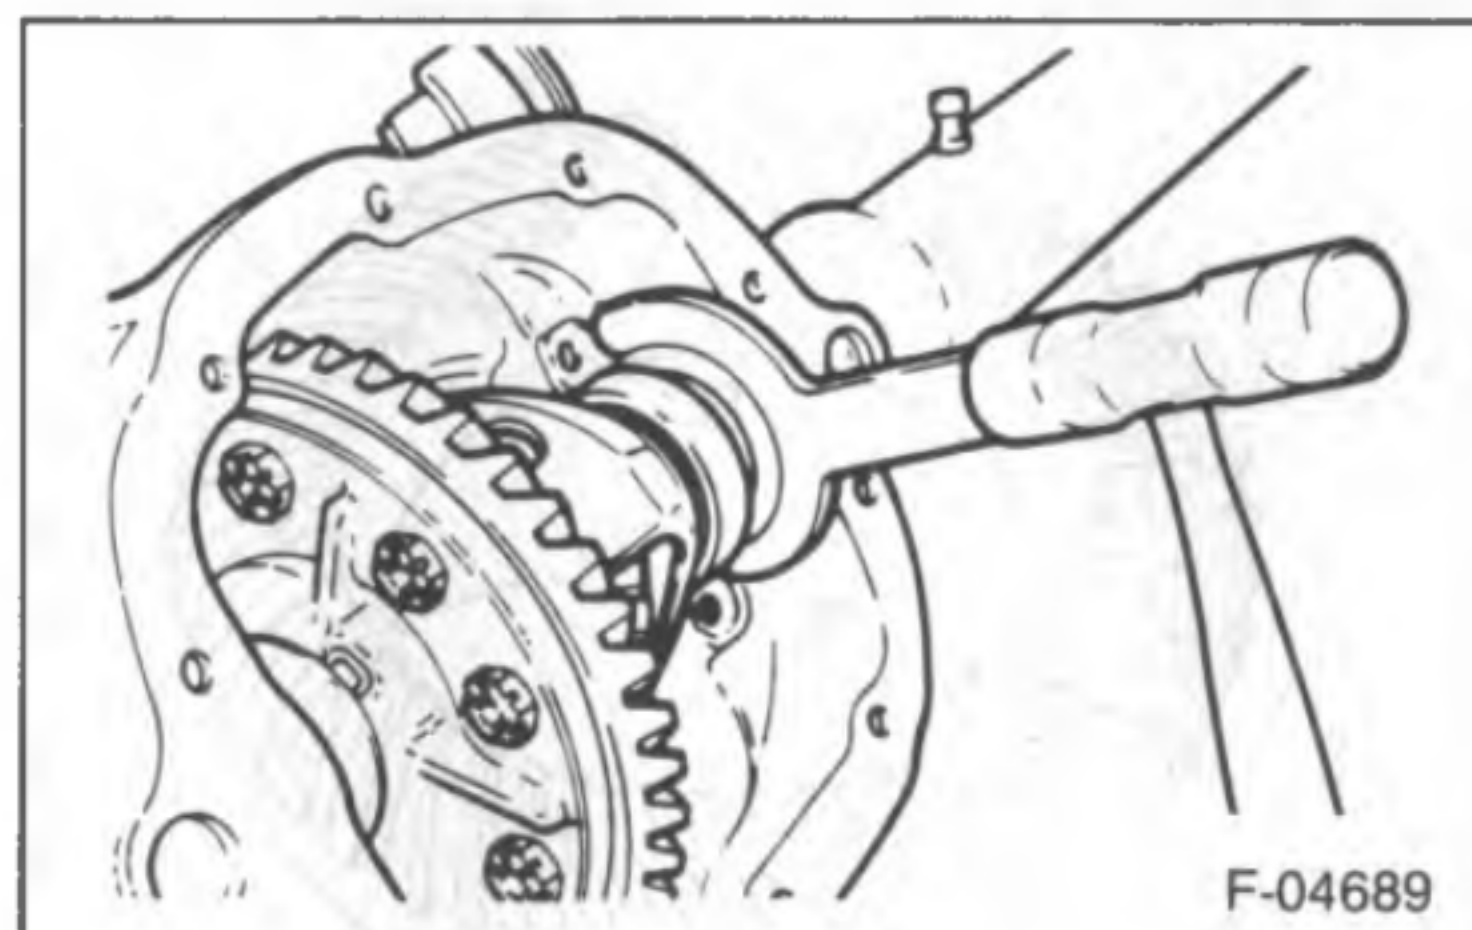

Figure 17—Installing the Differential Bearing Preload Shim
10. Select a shim 0.10 mm (0.004-inch) thicker than the one removed from the left side. Insert this shim between the spacer and the left bearing race (figure 17).
12. Select a shim 0.10 mm (0.004-inch) thicker than the one removed from the right side. Insert the shim between the spacer and the right bearing race, and drive the shim into place (figure 17).